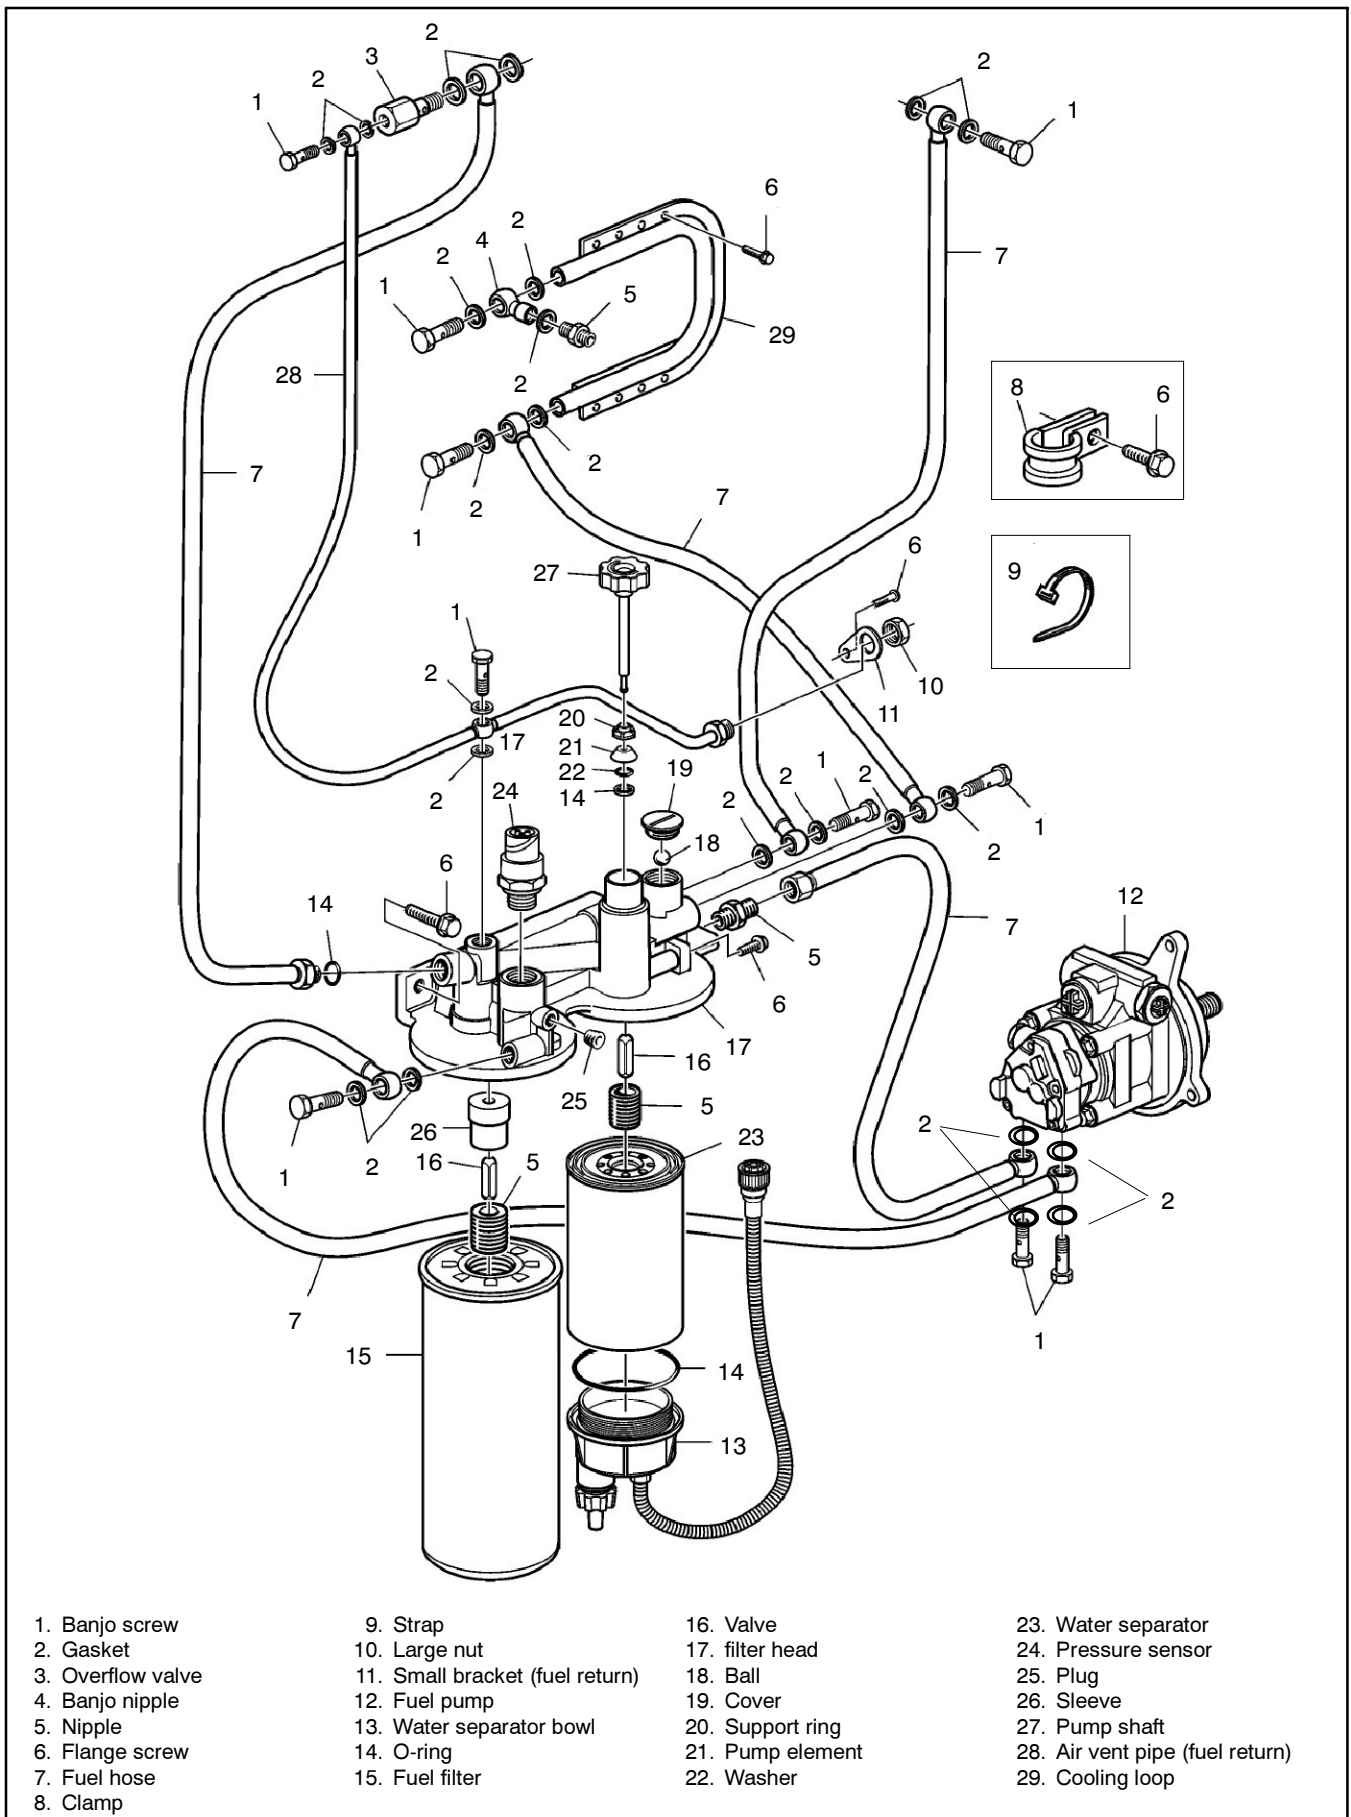
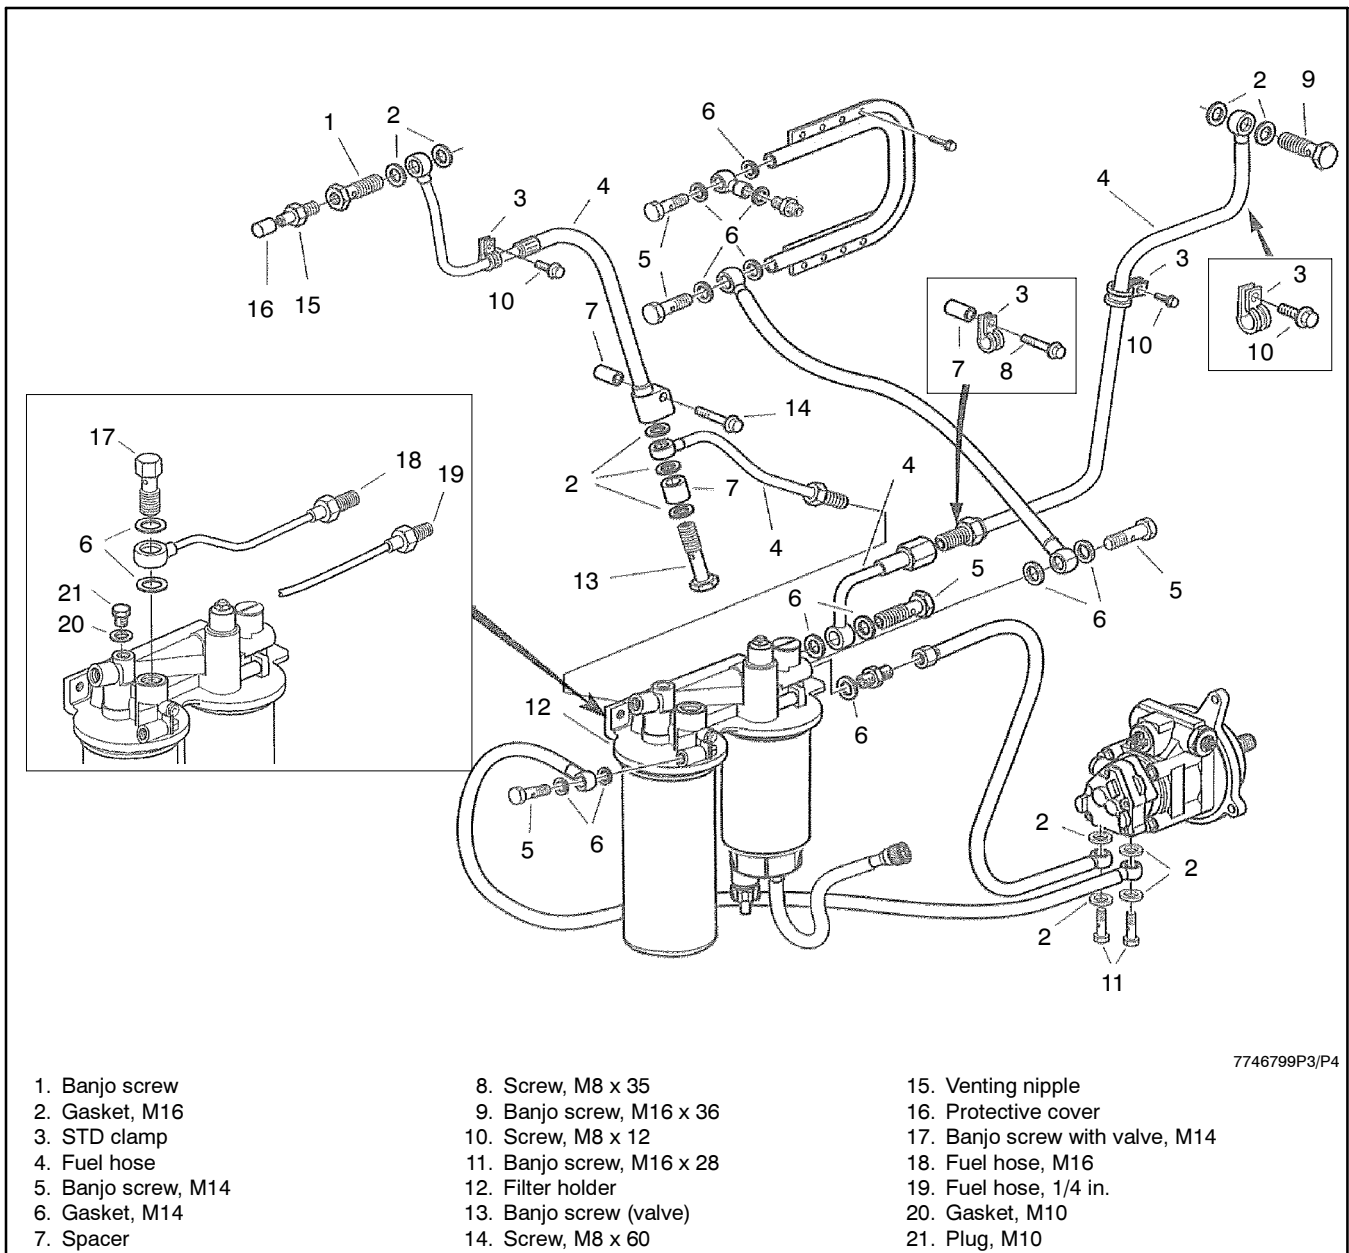

Figure 1 Existing Fuel System Components, Version 1
Figure 2 Existing Fuel System Components, Version 2
- 1.2.6 Compare the generator set fuel system with Figure 1 and Figure 2.
- 1.2.7 If the generator set fuel system is more similar with Figure 1, go to step 1.3. If the generator set fuel system is more similar with Figure 2, go to step 1.4.
Use the following steps to remove the existing fuel system components and refer to Figure 1.
Use the following steps to remove the existing fuel system components and refer to Figure 2.